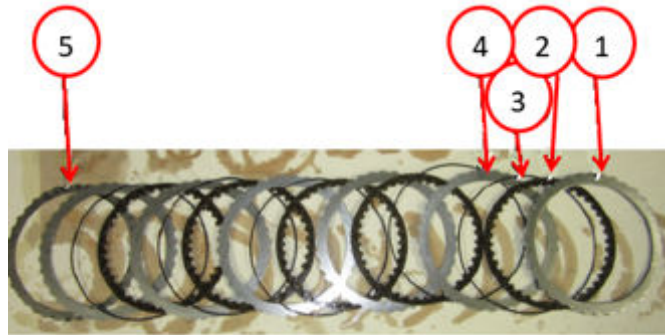

Fig. 33
49. The B clutch, dependent on transmission Julian Date, may contain wave springs that sit around each fiber. There will be five friction plates (discs), five wave springs, five steel plates, one cover plate, one snap ring, and one wave plate (last plate far left in figure) Fig. 33.